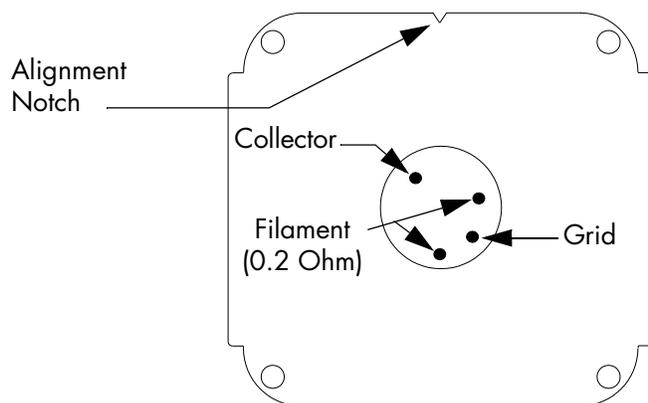

Figure 6-2 Mini-Ion Gauge Pin Identification.
6. Use a digital multimeter to measure the resistance of the left and right filament pins as illustrated in Figure 6-2. The reading should be approximately 0.2 Ohm.
7. Measure the resistance of filament pins to any other pin or gauge case as shown in Figure 6-2. The reading should be infinity.
8. Measure the resistance of Grid pin to any other pin or gauge case as shown in Figure 6-2. The reading should be infinity.
9. Measure the resistance of Collector pin to any other pin or gauge case as shown in Figure 6-2. The reading should be infinity.